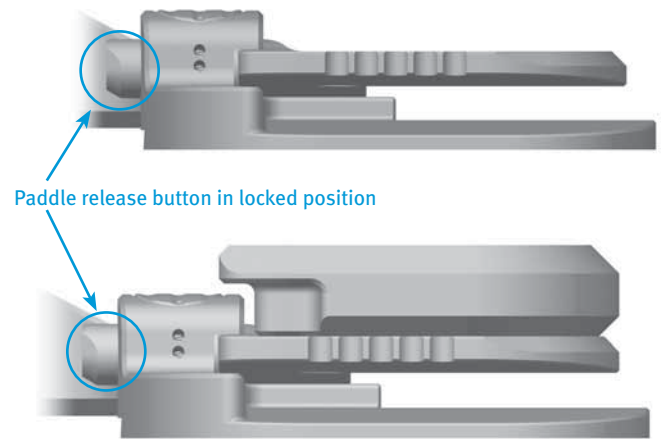

Fig. 31
- The Zimmer FuZion Spacer Block can be used as a conventional solid spacer block. The femoral paddle rotation can be locked at 0°, in both +0mm and +9mm configurations, by pushing the femoral paddle towards the t-handle (Fig. 31).